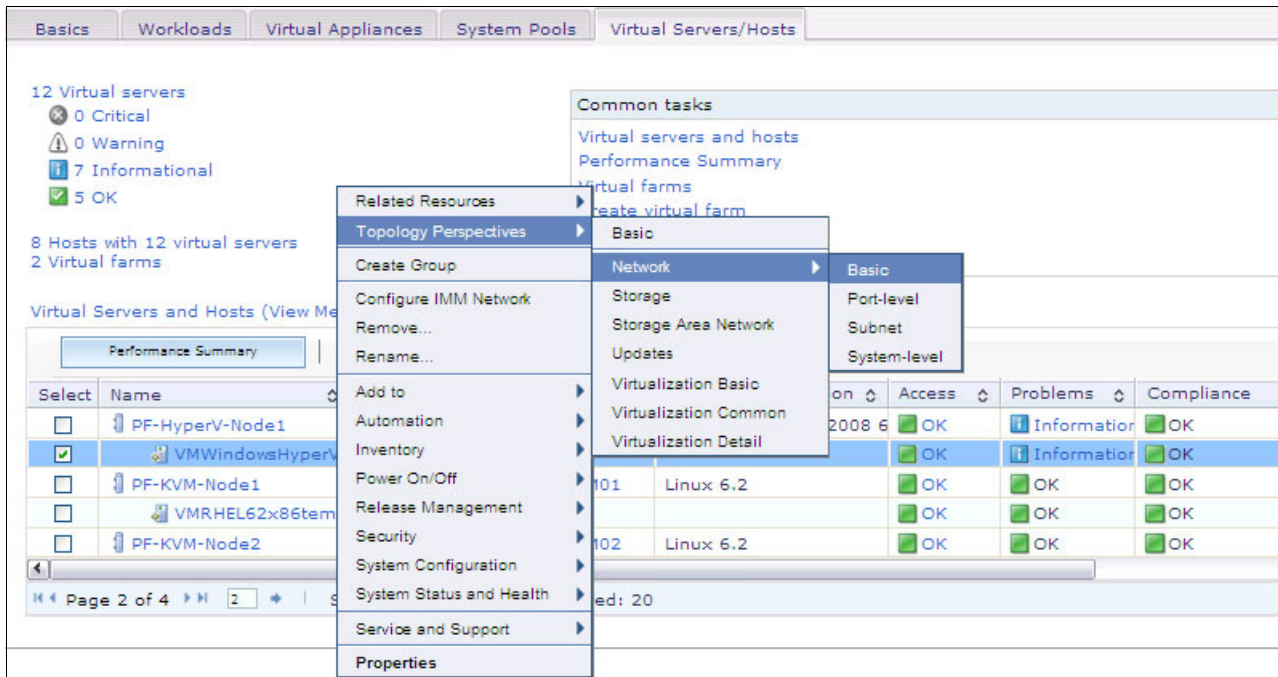

Figure 12-32 Selecting a basic network topology
- Right-click the server and select **Topology Perspective** → **Network** → **Basic**, as shown in Figure 12-32.